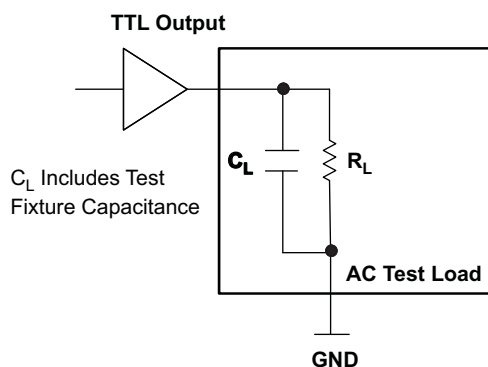

Figure 4. TTL Output AC Test Loading Condition
(1) The device will meet the specifications after thermal equilibrium has been established when mounted in a test socket or printed circuit board with maintained transverse airflow greater than 500 lfpm. Electrical parameters are assured only over the declared operating temperature range. Functional operation of the device exceeding these conditions is not implied. Device specification limit values are applied individually under normal operating conditions and not valid simultaneously.
(2) $R_L = 500\ \Omega$ to GND and $C_L = 20\text{ pF}$ to GND . See Figure 4. Measured with 750mV, 50% duty cycle clock source
(3) Skews are measured between outputs under identical transitions